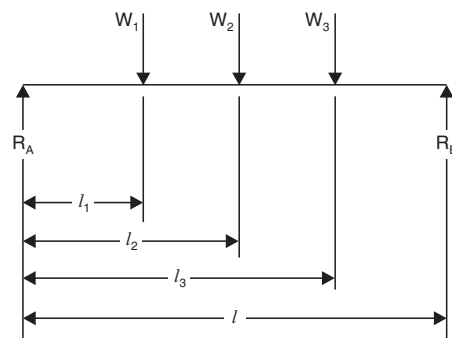

Fig. 4.2
**Calculations :** Ref. to Fig. 4.2